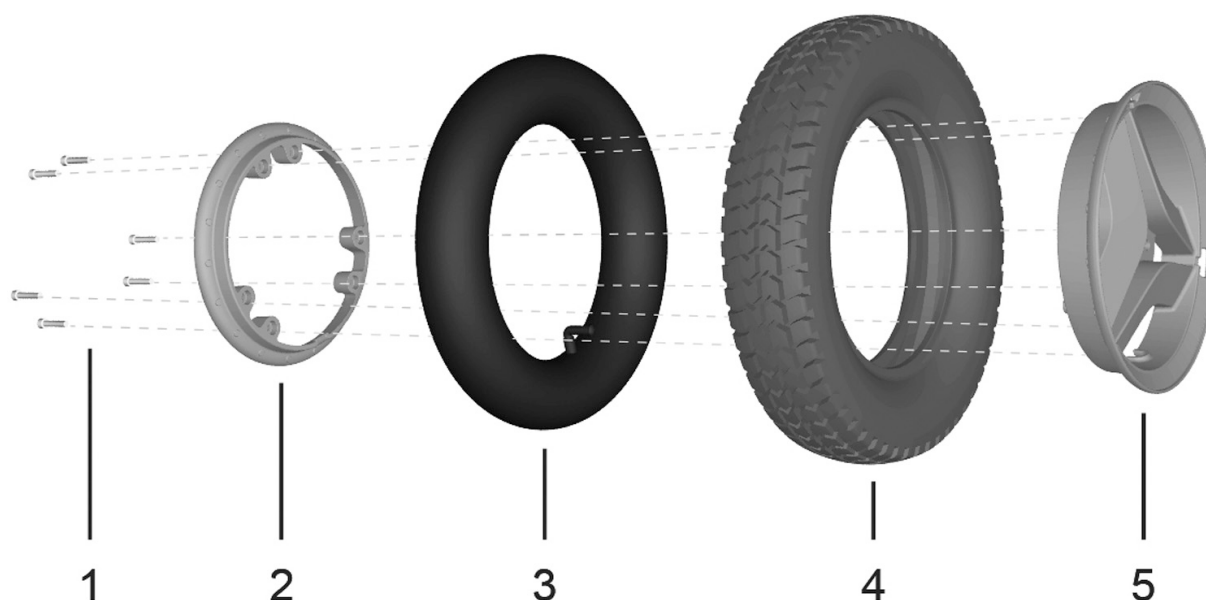

Figure 42. Assembling a tire to a split rim.
3. Remove the six screws holding the two halves of the rim together. See fig. 42.